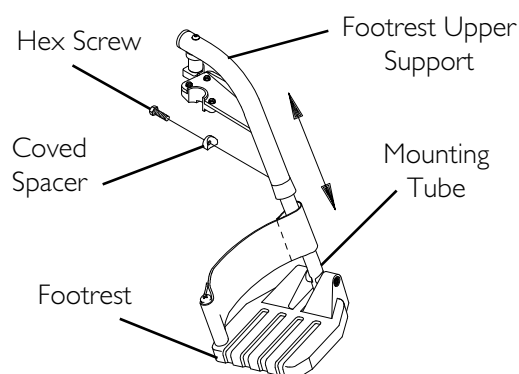

FIGURE 4.3 Adjusting Footrest Height - 60°, 70° and 70° Taper
NOTE: For this procedure, refer to FIGURE 4.3 on page 32.
3. Reassemble the hex screw and covered spacer through the footrest upper support and mounting tube (FIGURE 4.3).